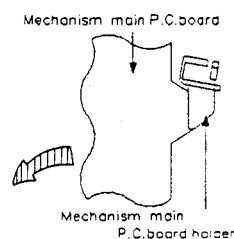

Fig. 4-15-7
7. Turn the mechanism main P.C. board in the direction shown by the shaded arrow as shown in Fig. 4-15-7, and remove the P.C. board from the mechanism main P.C. board holder section. In this case, the P.C. board will close to the F/L worm bracket, so slightly lift the P.C. board so that the P.C. board does not touch the worm bracket. Also take care not to damage the main P.C. board holder. Finally, remove the mechanism main P.C. board, paying attention not to touch the reel post.